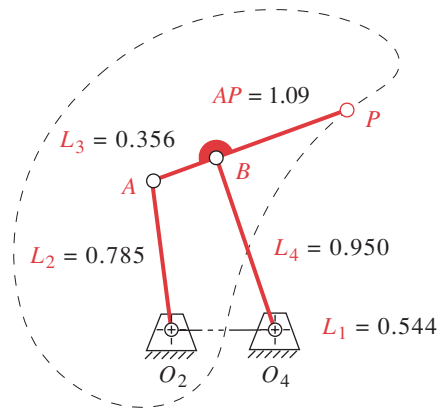

FIGURE P3-10
- *3-36 Find the Grashof condition, inversion, any limit positions, and the extreme values of the transmission angle (to graphical accuracy) of the linkage in Figure P3-10.